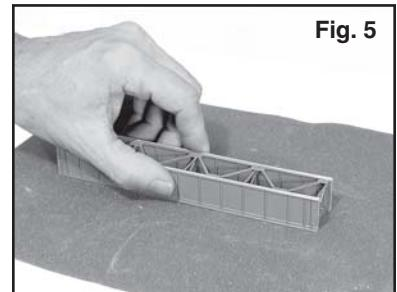

Fig. 5
**6. After the cement has dried sufficiently, place the span assemblies on a sanding block and sand off the draft angle and parting line from the top and bottom edges of the girders. See fig. 5.**
**7. Cement two long rivet plates part (4) to the bottom edge of each girder, locating them so their ends butt together at the center of the girder. Cement the bridge shoes part (5) on the bottom edge and at the ends of each girder.**
**8. Open Deck Bridge Only - Cement the guard timbers part (6) to the top of the Bridge Flex-Trak ties part (7).**